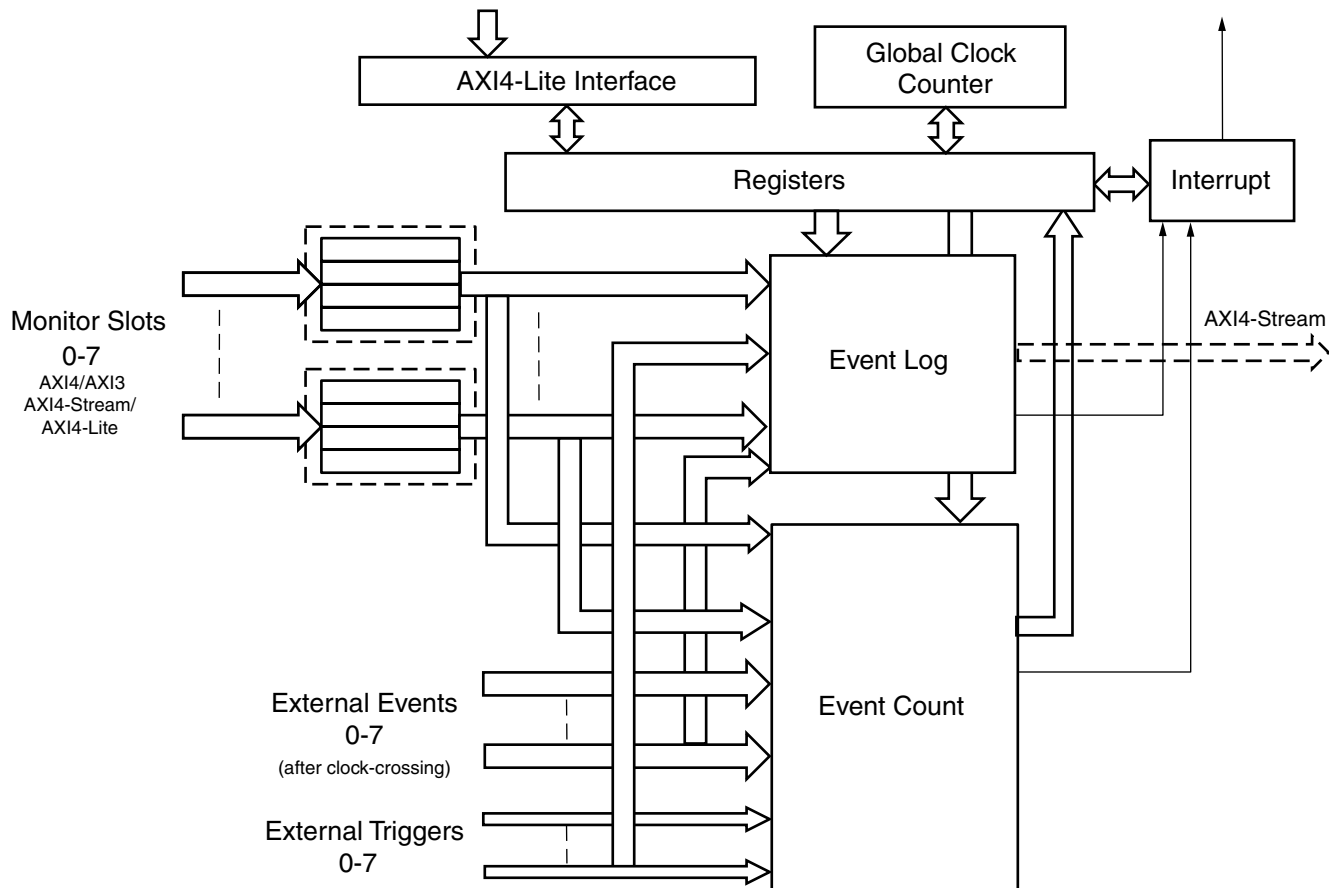

Figure 3-1: Block Diagram of AXI Performance Monitor
1. Instantiate the Performance Monitor core in the system. See Figure 3-1.